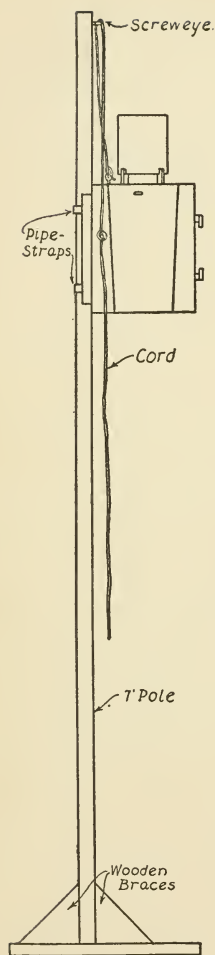
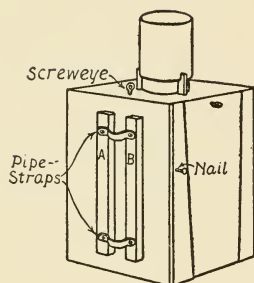

FIG. 321.
FIG. 322.
**Floodlights**, which are used to throw light from the wings on to the stage, may be made as shown in Figs. 321, 322, 323, and 324. The case for the light is made in the same manner as the dark-room lantern, described in Chapter XI, and illustrated by Figs. 176 and 177, except that the door is placed in the side instead of the back and no
glass or paper is fastened over the front opening (see Figs. 322 and 323). Make the opening four by five inches, and fasten two grooves, formed by nailing two
**Colored Lights** upon a scene. The slides consist of old four-by-five camera plates with colored tissue-paper pasted upon them, and are operated in the same manner as magic-lantern slides. The light should be mounted upon a standard, such as is shown in Fig. 321, consisting of a seven-foot pole fastened at the lower end to a board and braced with triangular blocks, as shown in the illustration. It should be so attached to the pole that it can be adjusted to any desired height, and to attain this two pipe-straps should be fastened to the back of the box, as shown in Fig. 322. First nail two vertical strips in place as at *A* and *B* in the drawing, and to these screw the two iron pipe-straps. When the straps have been attached, slip the end of the pole through them, and place a screw-eye in the box, another in the pole near its upper end, and a nail in the side of the box. Then attach a cord to the screw-eye in the box, and, after running it through the screw-eye near the top of the pole, twist it several times around the nail in the side of the box, which will hold the box in that position. One of these lights should be made for each side of the stage. In addition to them, you may have occasion to use